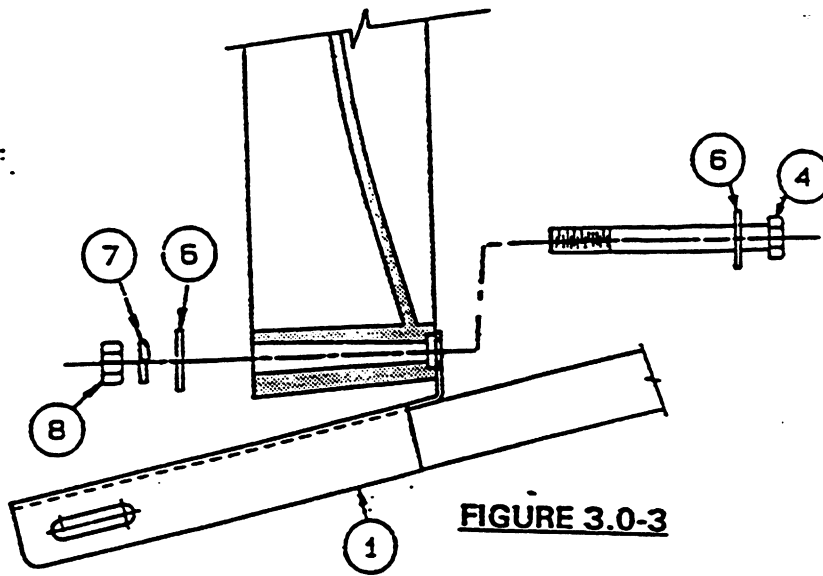

FIGURE 3.0-3
3. Attach the feed support tube loosely to the bottom of the reflector with a 5/16-18 x 3.75" bolt, two flat washers, lock washer and nut. Reference Figure 3.0-3.